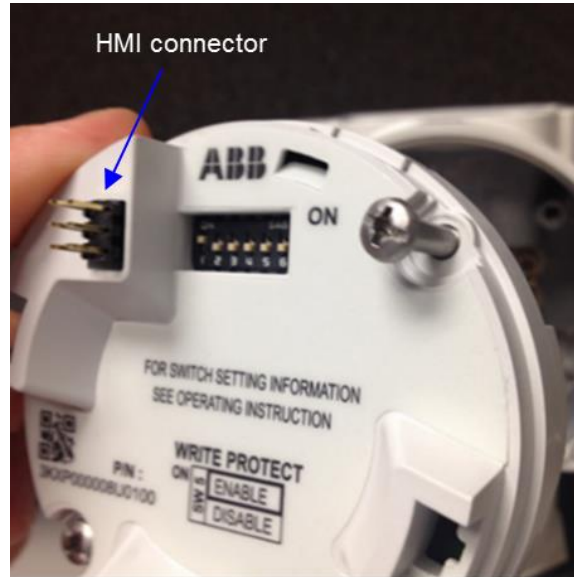

Figure 41: HMI connector
7. If the new module does not have an HMI connector installed, carefully remove the connector from the old electronics module and insert it into the new electronics module (Figure 41). Go to section 5.5, *Replacing the HMI connector*, for additional information.